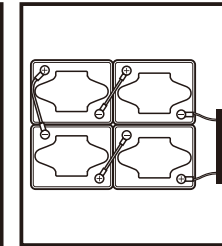

fig. 4
- 2.Connect the batteries with proper wires as shown below(fig.4):Connect the cathode to the anode as shown.